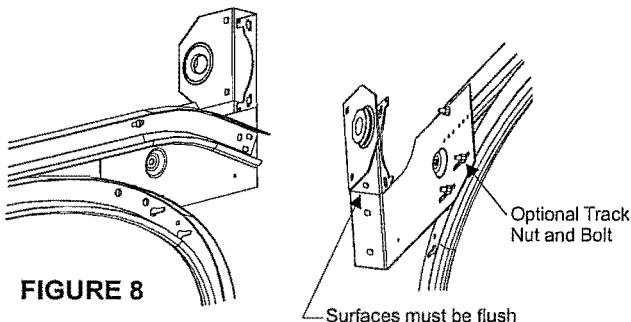

FIGURE 8
- Install the bracket assembly (header support) on top of the low headroom headplate. Make sure the leg for the winder attachment is flush with the low headroom headplate. (Figure 8)